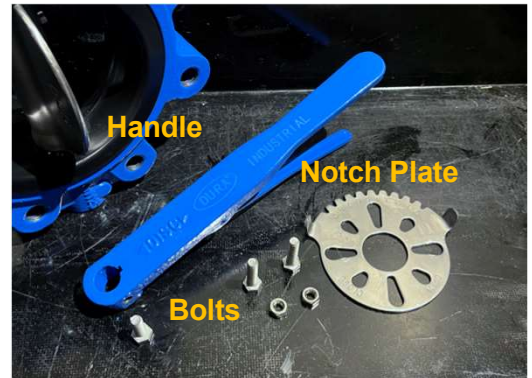

Figure 2
- Remove original handle, notch plate and bolts from the butterfly valve. (See Figure 2)